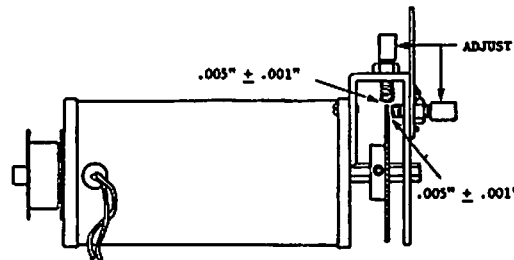

FIGURE 5-16 MAGNETIC PICKUP ADJUSTMENT
- 3) The distance between the edge/face of the timing disk and the pickups should be consistent along the circumference of the disk with a gap of $.005'' \pm .001''$ ($.127 \text{ mm} \pm .025 \text{ mm}$) (Figure 5-16).
- 2) Move carriage $1.18'' \pm .01''$ ($3 \text{ cm} \pm .025 \text{ cm}$) from left side frame (Figure 5-16, 17) and tighten timing disk set screw.